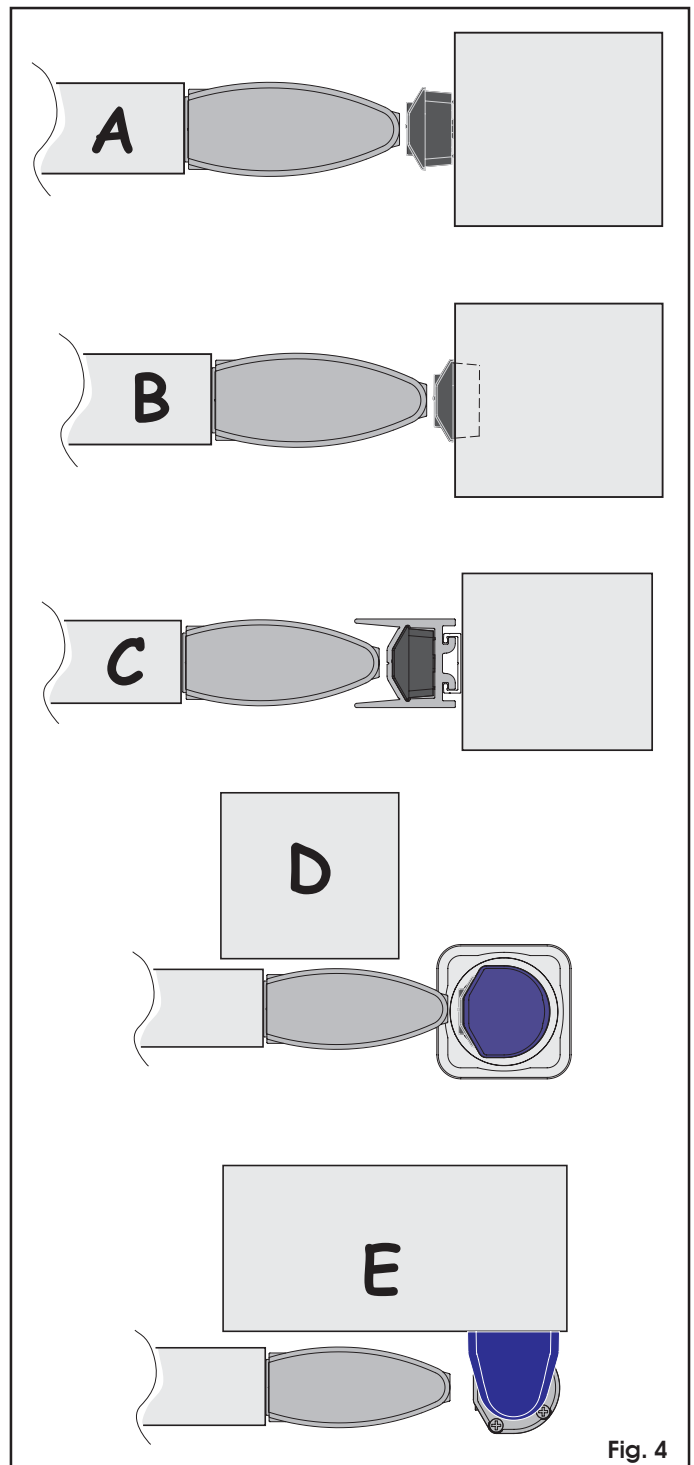

Fig. 4
- the receiver is installed directly on the pillar without any accessory, on the wall (Fig. 4 ref. A) or embedded (Fig. 4 ref. B). For installation, see par.5.3.4.
- the receiver is installed inside the coupling profile (Fig. 4 ref. C). For installation, see the accessory's instructions, par.5.3.5.
- the receiver is installed on the column (Fig. 4 ref. D). For installation, see the accessory's instructions.
- the receiver is installed on the adjustable support (Fig. 4 ref. E). For installation, see the accessory's instructions.